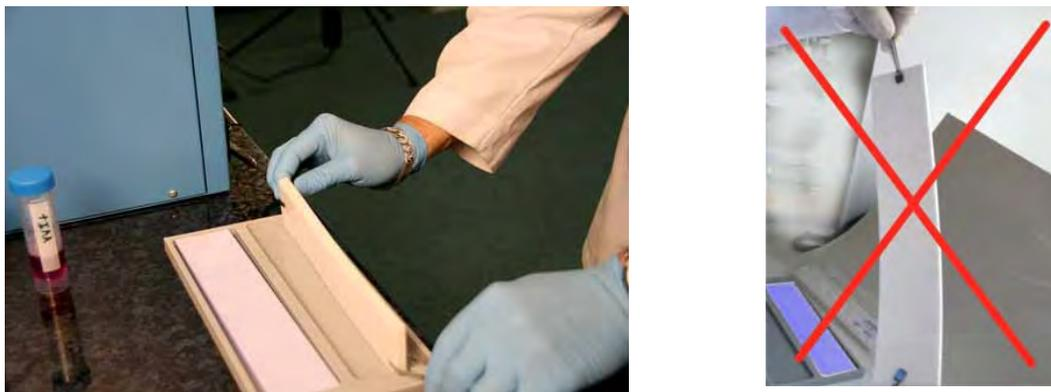

Fig. 5.6: Removal of excess buffer from the wicks. Always hold the wick horizontally.
8. Remove excess electrode buffer from the wicks by tilting the electrodes along one long edge and dab it on the Paper-Pool bottom (fig. 5.6). Always hold the wick horizontally, do not tilt it, this would cause a higher buffer concentration on one side.